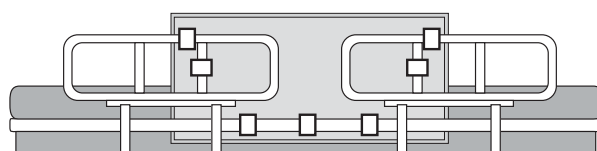

Fig. 3
5. While not all straps may be applicable for use on some bed models, ensure that enough of the straps are attached to secure the pad on the bed (Example of a properly installed 5705 shown in Fig. 3).